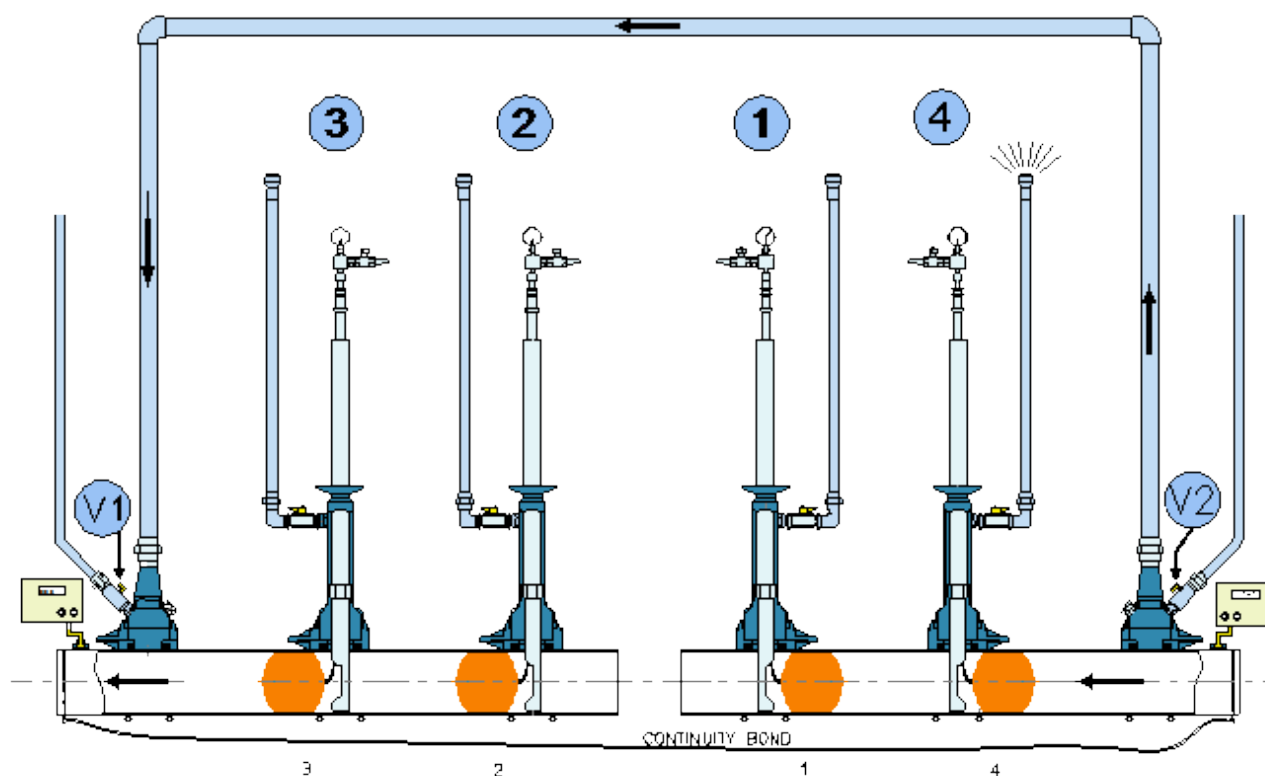

Figure 66- Cut Out Operation
2. Continue to monitor the pressures in the main and the bags. Accurately measure and mark the section of pipe to be cut see Figure 66.